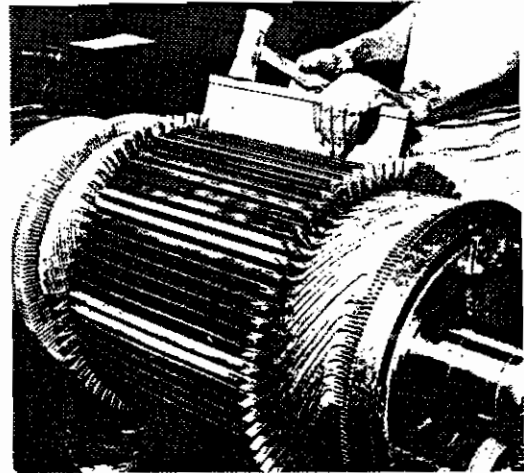

Fig. 43 - Setting Coils in Slots
7. Set the coils in the core slots by using a 0.5 kg mallet and a fiber block, Fig. 43. Refer to Service Data for fibre setting block part number.